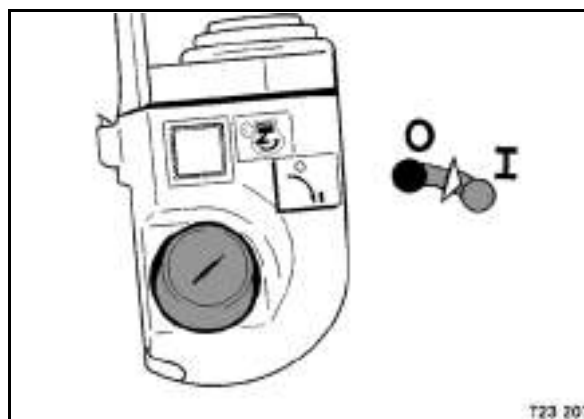

Fig. 83
- Switch on the ignition (Fig. 83).